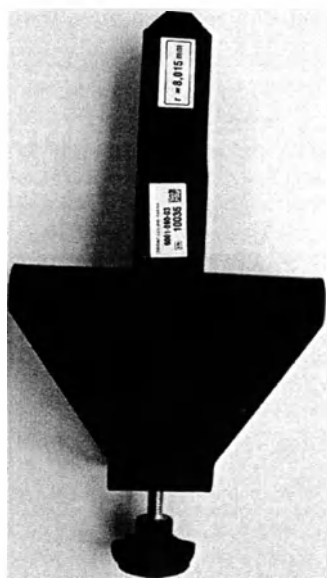
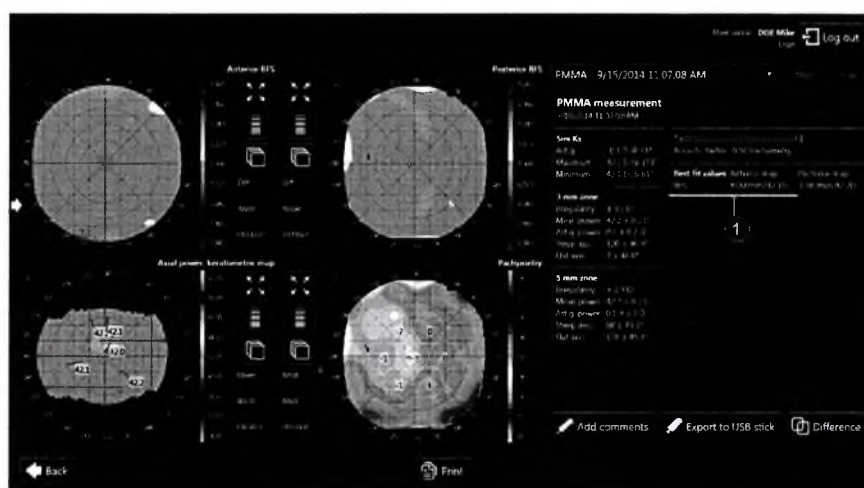

Fig. 57: ORBSCAN 3 calibration check tool
Fig. 60: Calibration check results
The reference calibration value for performing the calibration check is displayed on the label of the calibration check tool (Fig. 57).
- The ORBSCAN 3 calibration check tool (Fig. 57) is placed onto the chin rest.
The calibration check results (Best fit values) will be displayed directly to the right of 'BFS:' (Fig. 60/1).
5. ➔ Compare the calibration check results (Fig. 60) with the value on the calibration check tool label (Fig. 57).